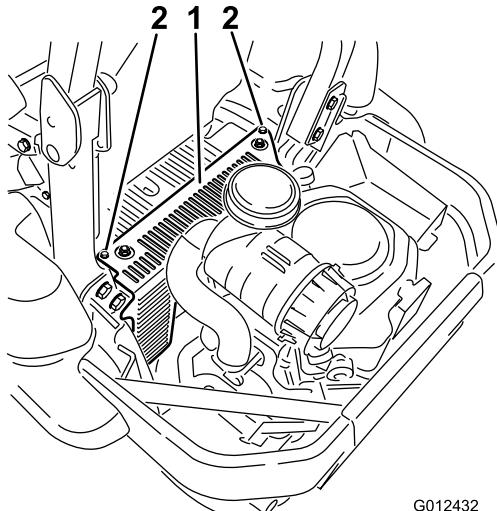

Figure 53
3. Remove the hydraulic unit shroud and the 2 bolts attached to it (Figure 53). This gives you access to the front spark plug.
5. Install the lefthand hydraulic unit shroud (Figure 53).